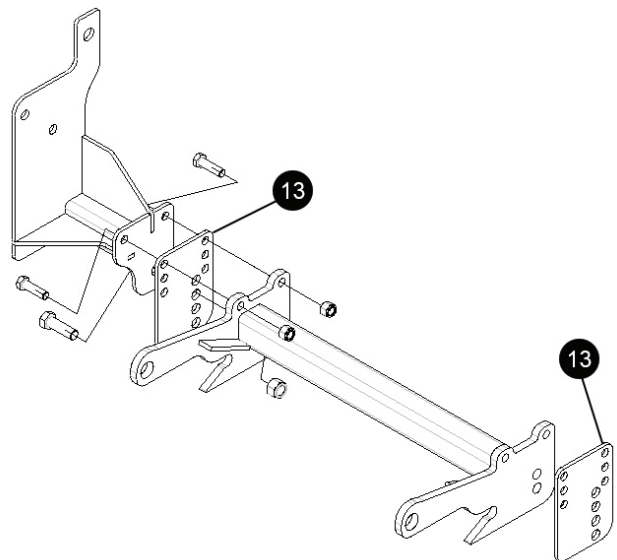

Figure 1 - Spacers for Gladiator
* 19945 spacers used on Jeep Gladiator only. See instructions and Figure 1 for more detail.
- B. Align LH Side Member and RH Side Member (1 & 2) to outside of frame with front 2 holes. Attach both front holes with 1/2-13 x 1-1/2" Bolt (5) and 1/2-13 Locknut (9). Using top hole on both side members as center scribe hole on outside of vehicle frame.
- D. Attach LH Side Member and RH Side Member (1 & 2) to outside of vehicle frame using 1/2-13 x 1-1/2" Bolt (5) and 1/2-13 Locknut (9) in both front holes. Attach rear hole using 3/4" Special Bolt (8), Spacer (4), 3/4" Lockwasher (11) and 3/4-10 Finish Nut (12).
- E. Attach LH Side Member and RH Side Member (1 & 2) to Drive Pro Clevis (14) using 1/2-13 x 1-3/4" Bolt (6) and 1/2-13 Locknut (9) in top 2 holes. Also attach using 5/8-11 x 2" Bolt (7) and 5/8-11 Locknut (10) in lower hole.
- NOTE:** For Gladiator models only, use a Spacer (13) in between the Clevis (14) and Side Members (1 & 2) to close the gap. See Figure 1.